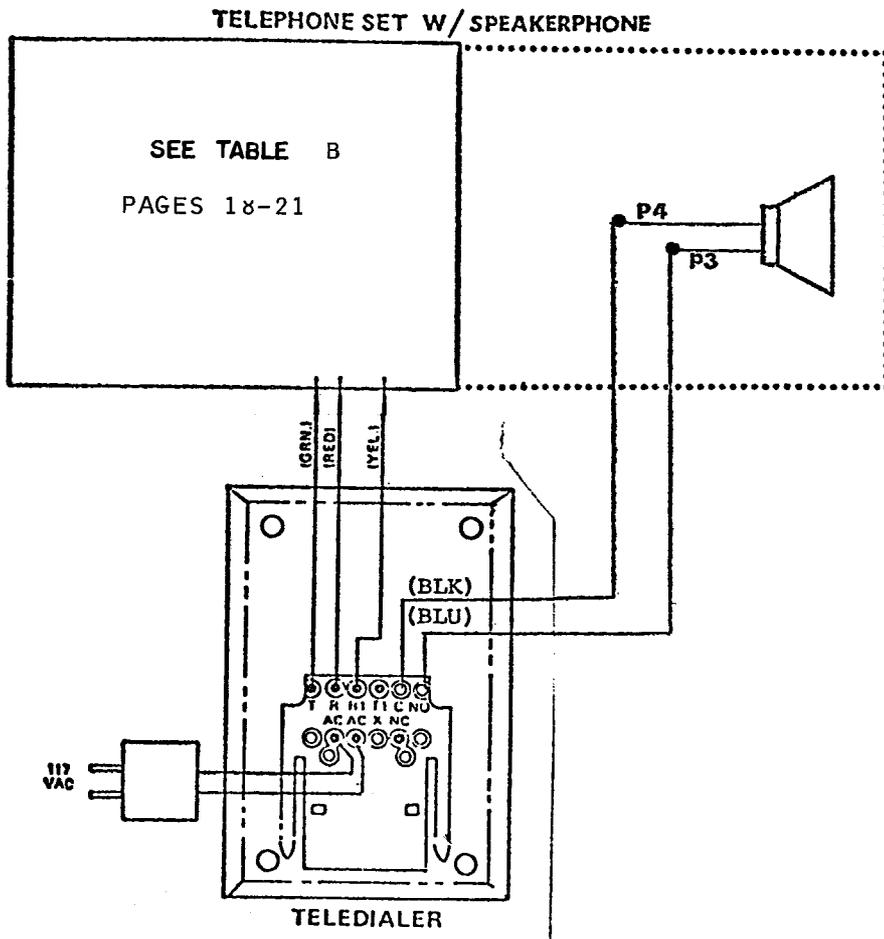

Figure 4 TELEDIALER SPEAKER PHONE CONNECTIONS (TYPICAL)
3.07 If audible dial pulses over the speakerphone are found objectionable, connect the spare blue and black leads, in line cord, to terminals P3 and P4 of the speakerphone (Figure 4).